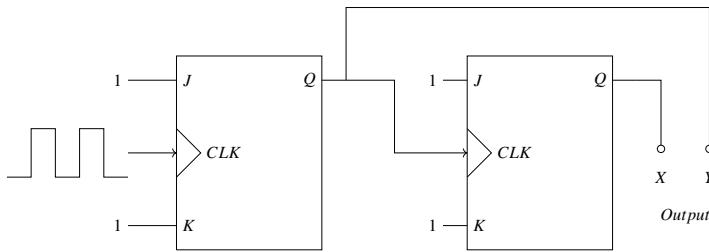

Fig. 5.19
19. The circuit shown in Fig. 5.19 below uses ideal positive edge-triggered synchronous $J - K$ flip flops with outputs X and Y . If the initial state of the output is $X = 0$ and $Y = 0$ just before the arrival of the first clock pulse, the state of the output just before the arrival of the second clock pulse is _____ (GATE-IN2019,12)